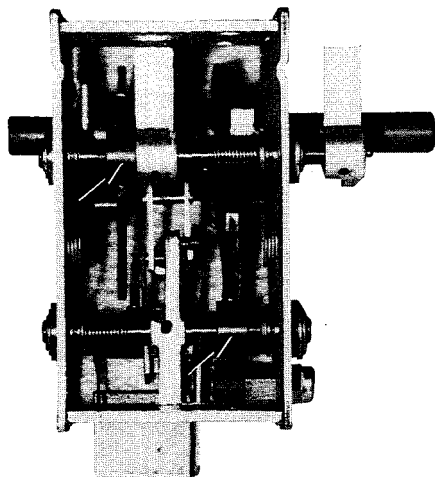
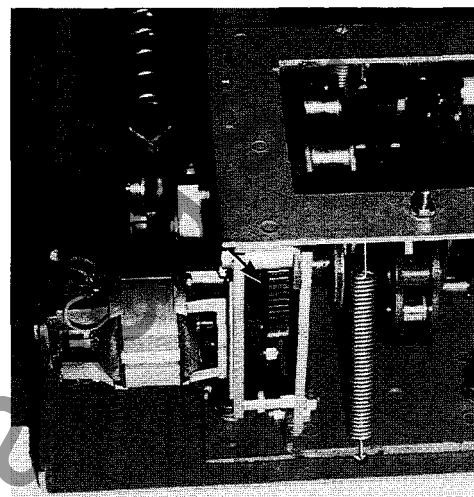

Figure 26: Latch lubrication
Figure 27: Gear lubrication
3. Lubricate trip latch surfaces (figure 26) and gears (figure 27), using Mobilgrease 28.